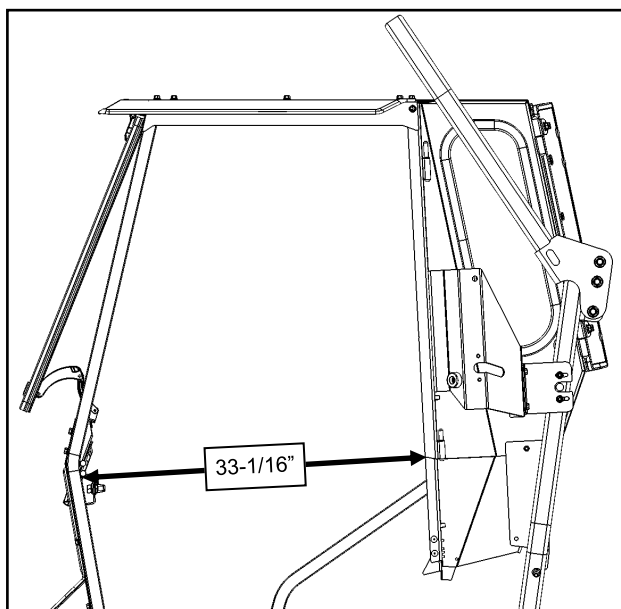

Fig. 16.3 (Measure A-Pillars to Rear Legs)
- 16.3** Measure the distance from the striker bracket to the front edge of the rear legs as shown in figure 16.3. Adjust the A-pillars, rear legs, and ROPS brackets to get as close to 33-1/16" as possible. Tighten the hardware securing the ROPS brackets to the ROPS that were installed in step 2.1.